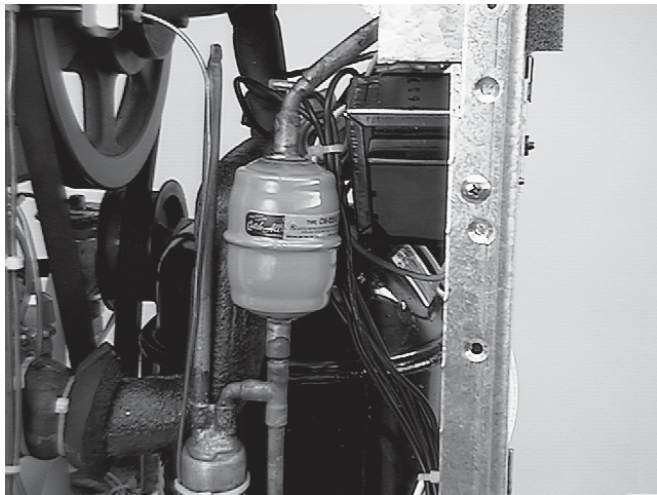

Figure 25. Filter Drier
7. Remove the dryer by unsweating the refrigeration lines then with an open port sweat in the replacement dryer. Make certain the arrow points in the direction of flow. Figure 25.